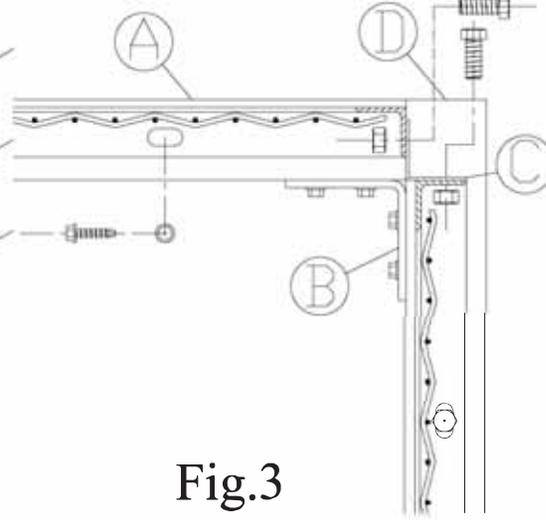

Fig.3
5. Install slotted angle (C) on top of wall panels per instruction page 18.
7. Use self drilling screws to attach panels to horizontal ceiling tubes Fig.3.